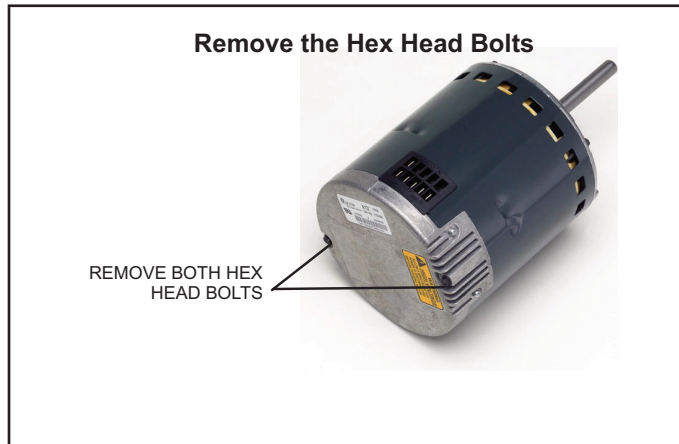

FIGURE 11
- 4 - Remove the two hex head bolts securing the motor control module to the motor (FIGURE 11).
- 3 - Mount new motor control module to motor using two hex head bolts removed in FIGURE 11. Torque bolts to 22 inch pounds or 1/16th clock wise turn.